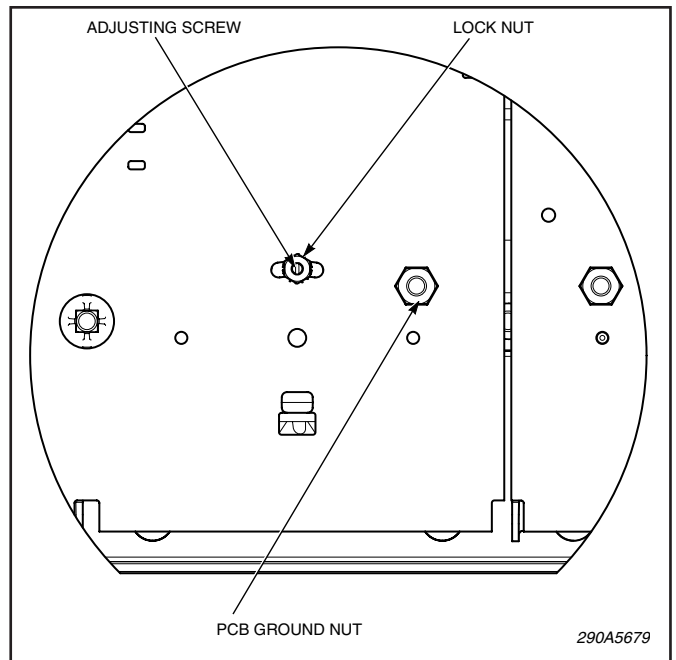

Figure 2.
B. *Panel Assembly Replacement (see figure 2).*
D. *Halogen Lamp Adjustment (see figure 2).*